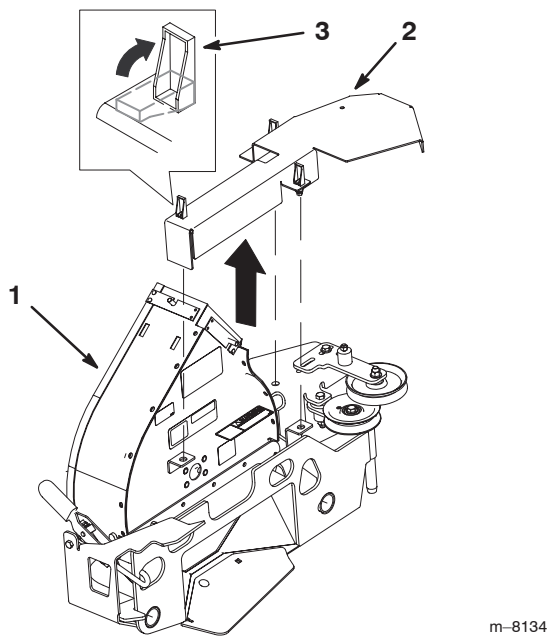

Figure 27
4. Remove the blower belt cover (Fig. 27).